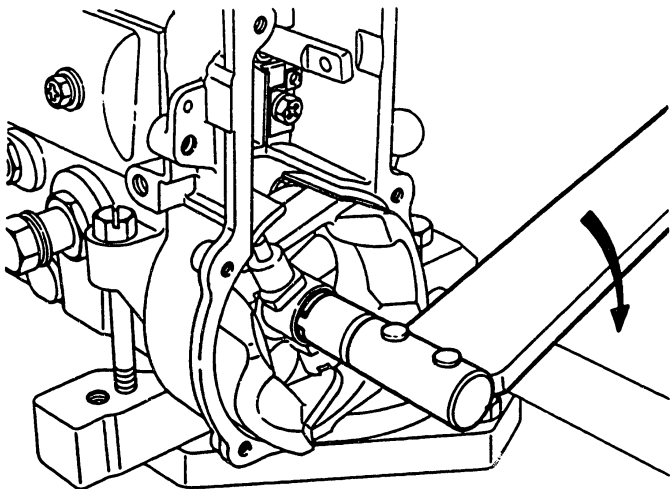

Fig. 63 Tightening of roundnut
Tighten roundnut (103) of flyweight securely to the specified torque. (Fig. 63)